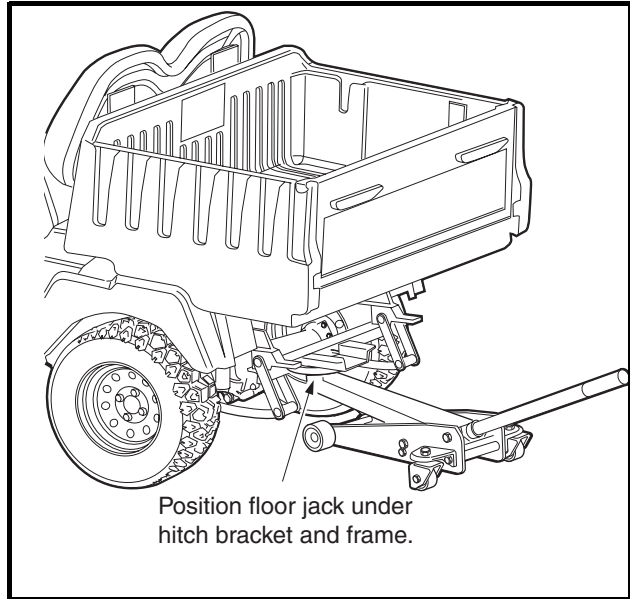

Figure 18-21 Floor Jack
7. Position a floor jack under the vehicle frame crossmember or trailer hitch mount (**Figure 18-21, Page 18-10**).